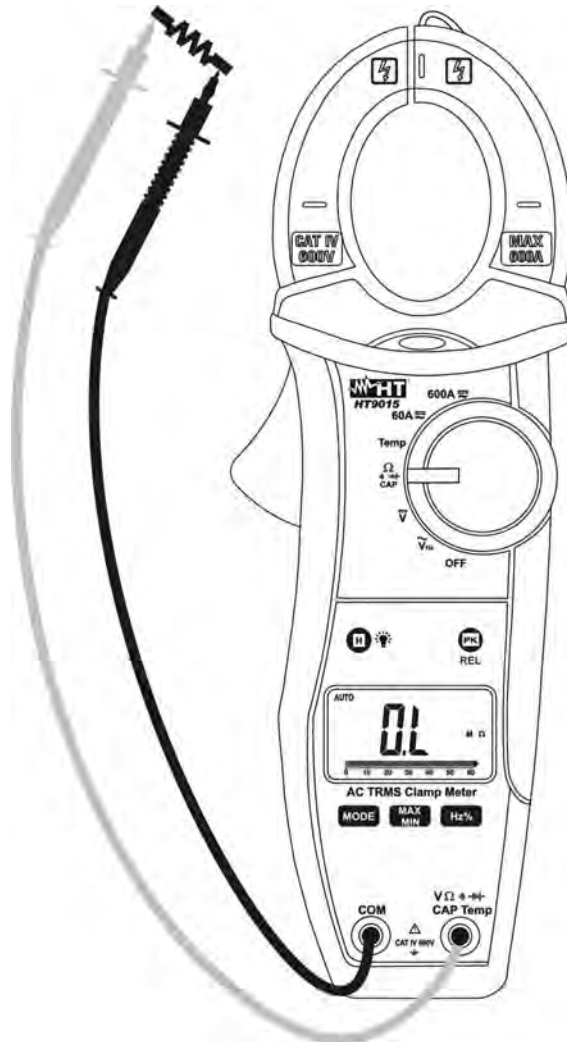

Fig. 5: Taking Resistance measurement
2. Insert the red test lead plug into **V  $\Omega$  CAP Hz %Temp** jack and the black test lead plug into **COM** jack (Fig. 5)